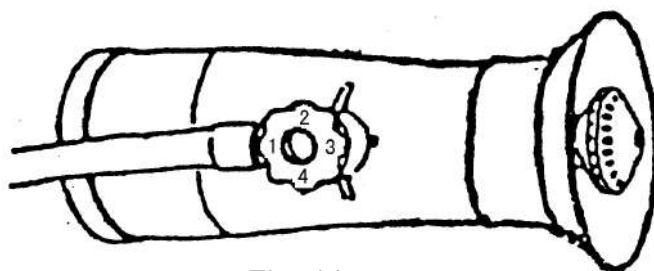

Fig. 11
1) Misting. Loosen the pressing lid, regulate the length of the nozzle opening to meet the different requirement of misting. Turn the regulating valve to change the amount of misting. See Fig 11.